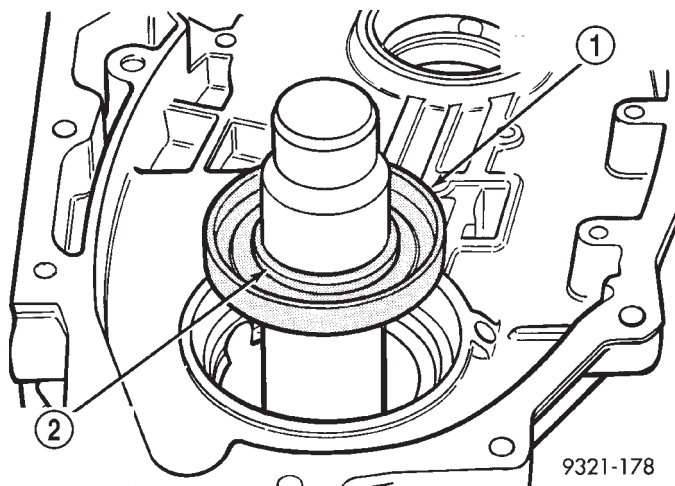

Fig. 416 Correct Seal Orientation
(38) Install rear transfer shaft seal. The seal must be installed so that the spring side of the seal faces the installation tool (Fig. 416). Use the same special tool (6567A) to install the seal. The installation tool will set the seal depth. Use a press to install this seal. Do not use a hammer.